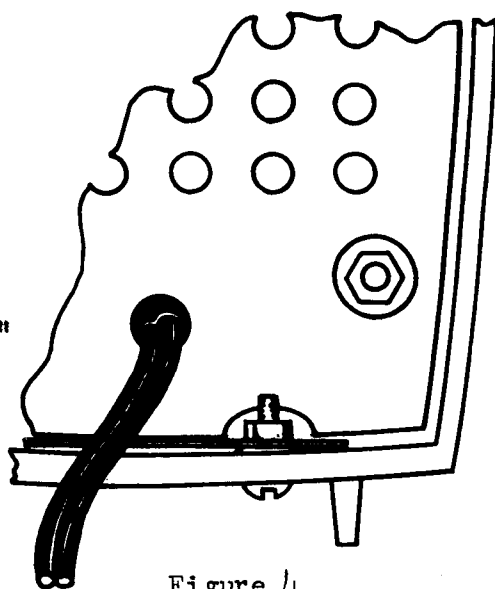

Figure 4
- () Secure the chassis in the cabinet with two 3-56 X 3/8" screws and nuts inserted through the bottom of the cabinet and chassis bracket Q. See Figure 4.